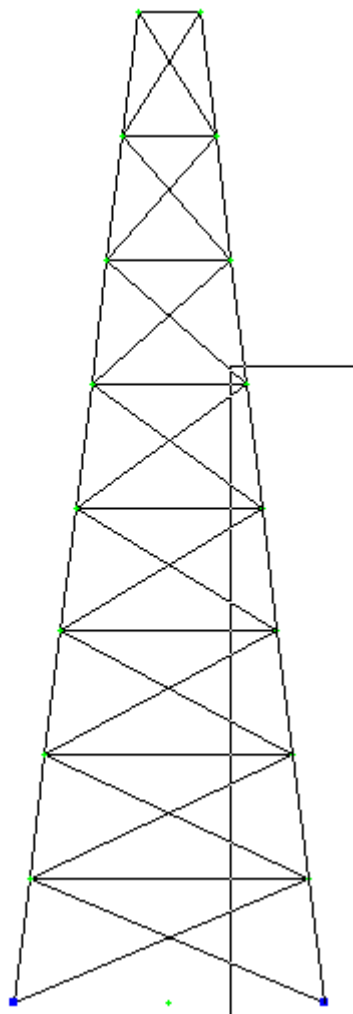

Figure 5.20 Specifying elements with 'selection window'
- ⇒ Select projection of five lower elements of right edge of tower with 'selection window' as presented in Fig.5.20.